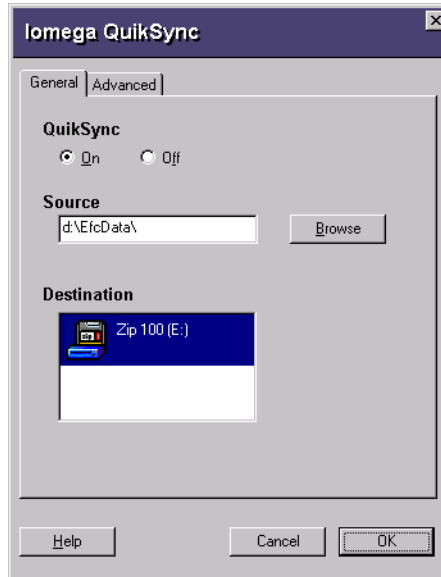

Figure 2-11 QuikSync Dialog Box
1. From the Windows taskbar, click **Start, Programs, Iomega QuikSync, QuikSync, QuikSync**. This displays the QuikSync dialog box (Figure 2-11).
1. Double-click the **QuikSync** icon in the Windows status area (on the right side of the taskbar) to open the QuikSync dialog box (Figure 2-11).
2. Verify that the dialog box is configured as shown in Figure 2-11.